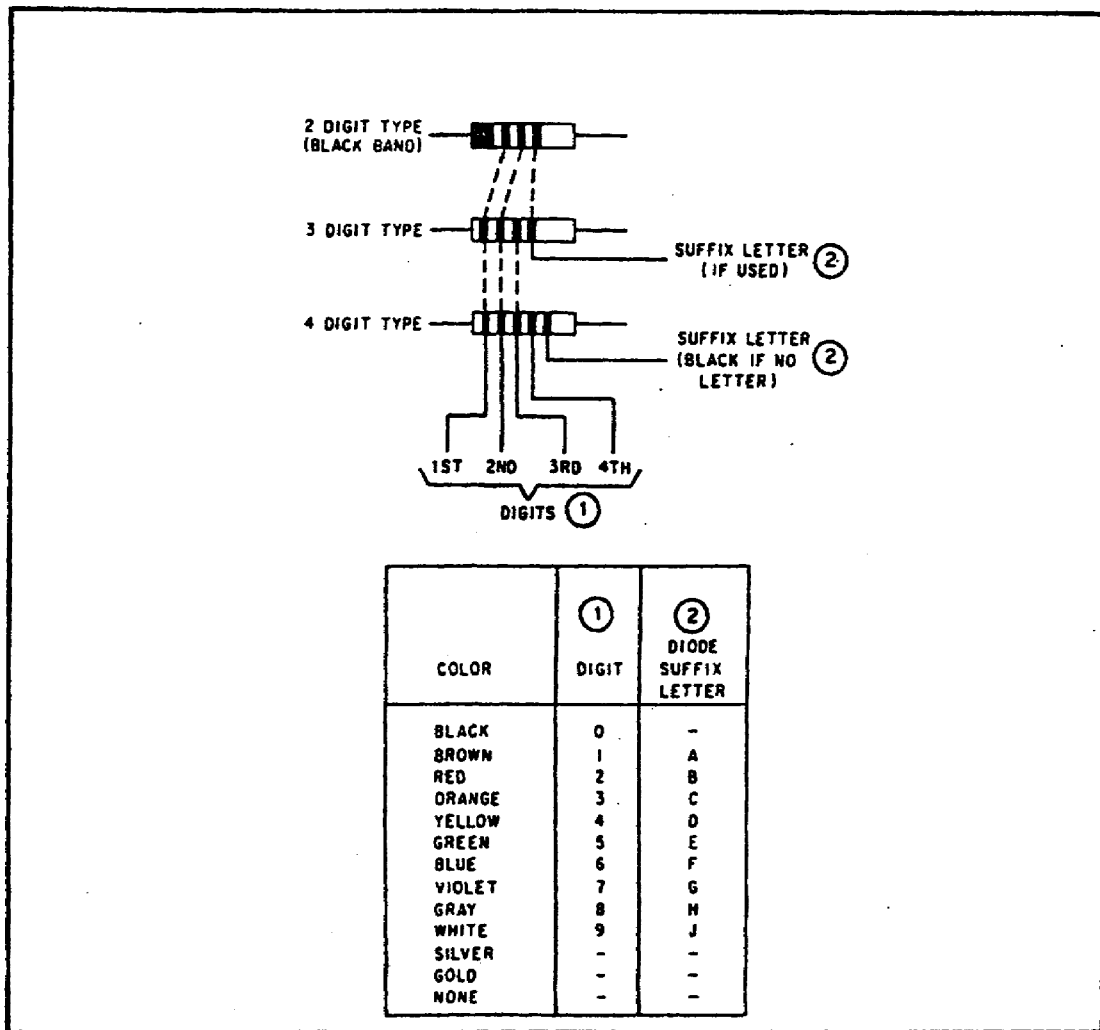

FIGURE 88. SEMICONDUCTOR DIODE COLOR CODE SYSTEM.
(3) *Standard Diode Color Code System.* The standard diode color code system serves two purposes when it is used: (1) it identifies the cathode end of the diode, and (2) it also serves to identify the diode by number. Figure 88 (on the following page) shows the typical diode color code system.